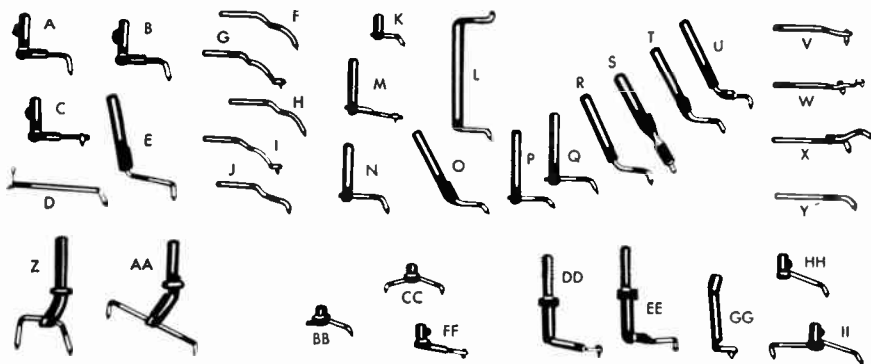

Fig. 5. Replacement needles for modern phonographs. Practically all modern needles have bent shanks for suppressing record noise. (Jensen illustration)
**Noise-suppressing Needles.** An odd-shaped needle having a horizontal portion, such as those shown in Fig. 5, is less responsive to the noise in records than a straight needle. Noise suppression usually also means suppression of such higher frequencies in music as may also be present on the record, but the average listener does not miss these high frequencies.
Another fairly common arrangement has a tilting cartridge and one of the two-headed needles shown in Fig. 5. Here the entire needle must be replaced when one of the points is worn. Sometimes the cartridge-tilting lever also shifts a weight at the back of the tone arm to give increased pressure for 78-rpm records, but more often now the same needle pressure is used for both types.